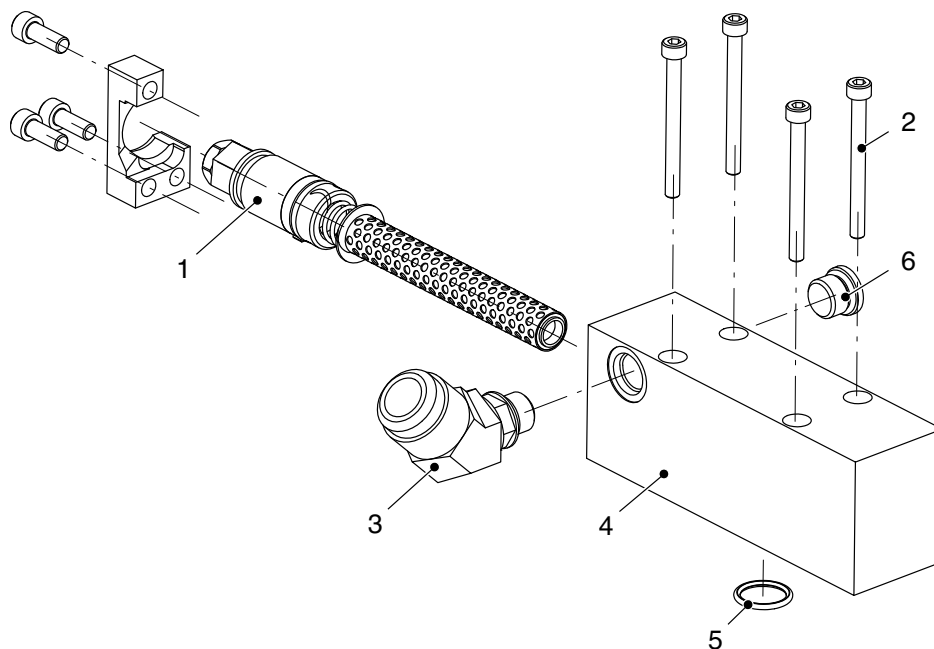

Fig. 32
If the filter block (4, Fig. 32) has been removed, the O-ring (5) must always be replaced.